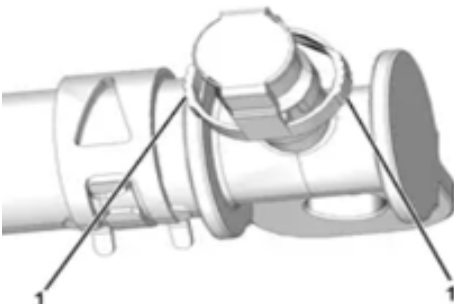
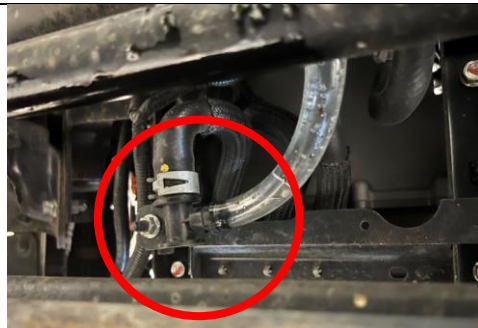

Figure 16
Figure 17
33. Prepare the vinyl tube with valve from the tool kit and ensure that the valve is turned off. Remove the cabin heater coolant drain cap (See Figure 16.) by firmly squeezing the scored plastic release tabs on the drain cap and pulling straight out. Immediately push the open end of the vinyl tube onto the drain port. (See Figure 17.) Save the drain cap for later use.